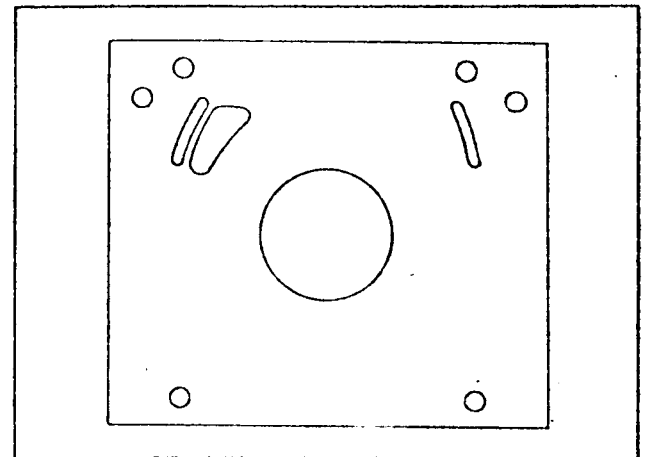

Fig. 2-9 Jig for Sliding Face Ports
(4) Disassemble the housings.
(5) Smear blue petrolatum at the ports in the sliding surfaces of the front housing, intermediate housing and rear housing, fix the jig (See Fig. 2-9) with the tubular dowel, and mark lines.